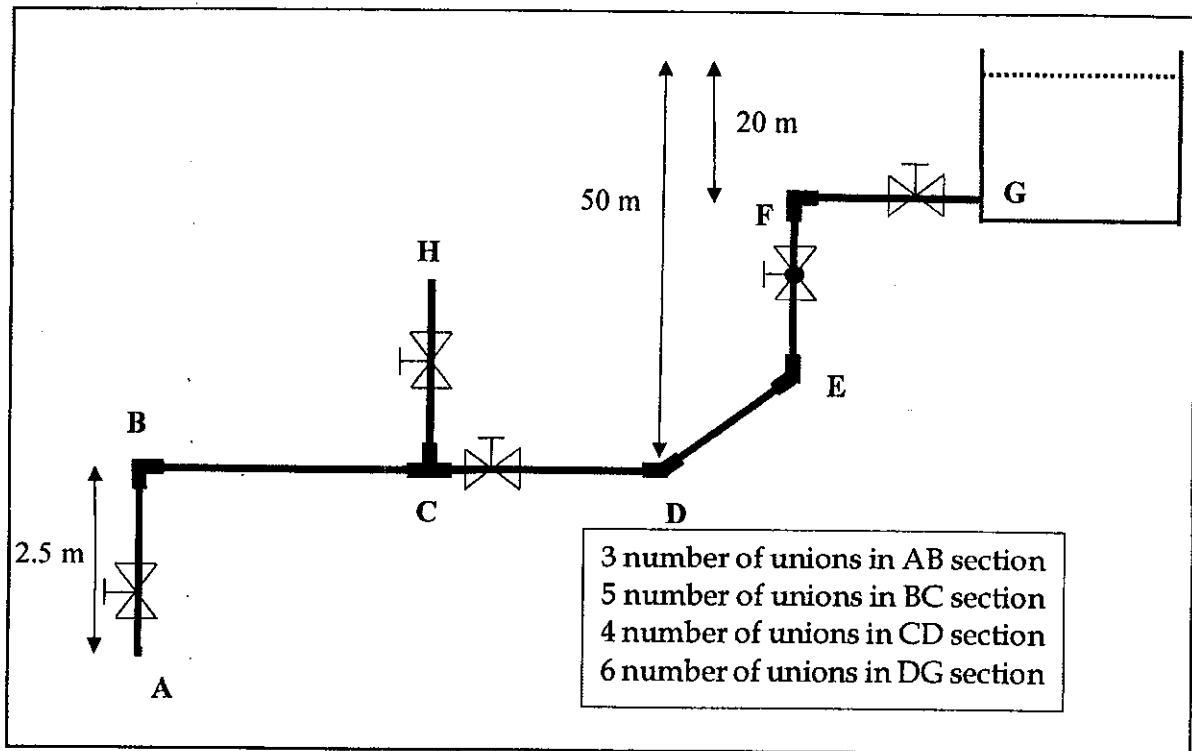

Figure Q1(e): Proposed pipe layout
- e) Figure Q1(e) shows a pipe flow system which distribute water from a large open tank through a pipe of total length 250 m that contains a number of valves and fittings. The discharge of the pipe flow is at atmospheric pressure. Section ABCD and DCH are on the same horizontal plane. The pipe and all components are made out of galvanized iron having a common effective diameter of 6 cm. If the friction factor for the galvanized iron pipe is 0.026, calculate the following.